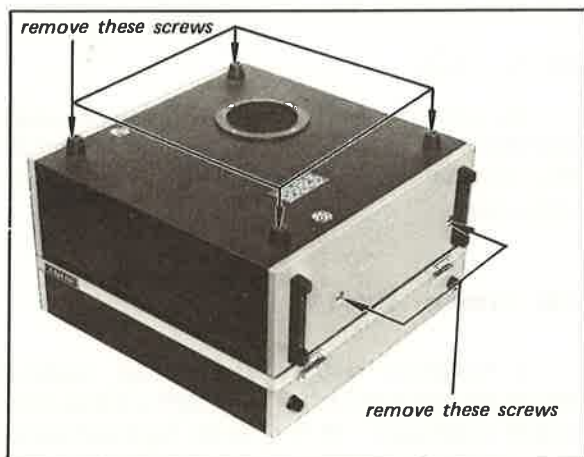

Fig. 3-1. Cabinet removal
1. Turn the VTR (with cabinet lid) upside down on a padded bench as shown in Fig. 3-1.
2. Remove the two rubber feet and the two Phillips-head screws from the bottom of the cabinet as shown in Fig. 3-1. Also remove the two Phillips-head screws on the side of the cabinet.